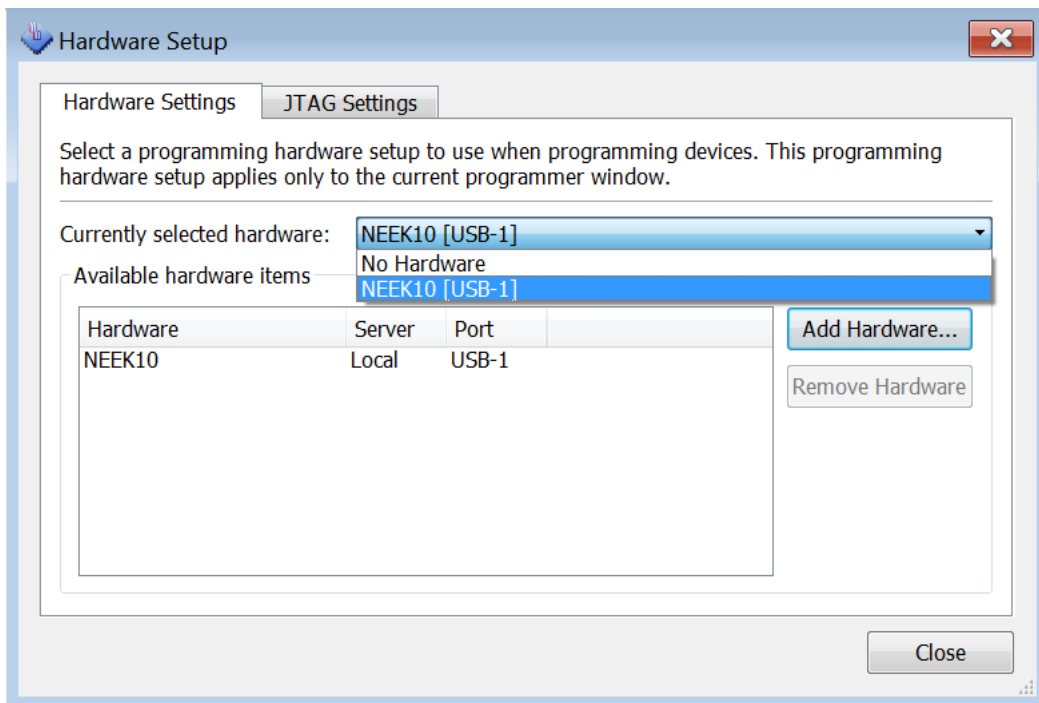

Figure 1-48 Hardware Setup
5. Select NEEK10[USB-1] from the Currently selected hardware drop-down list box, as shown in **Figure 1-48**. Click Close.